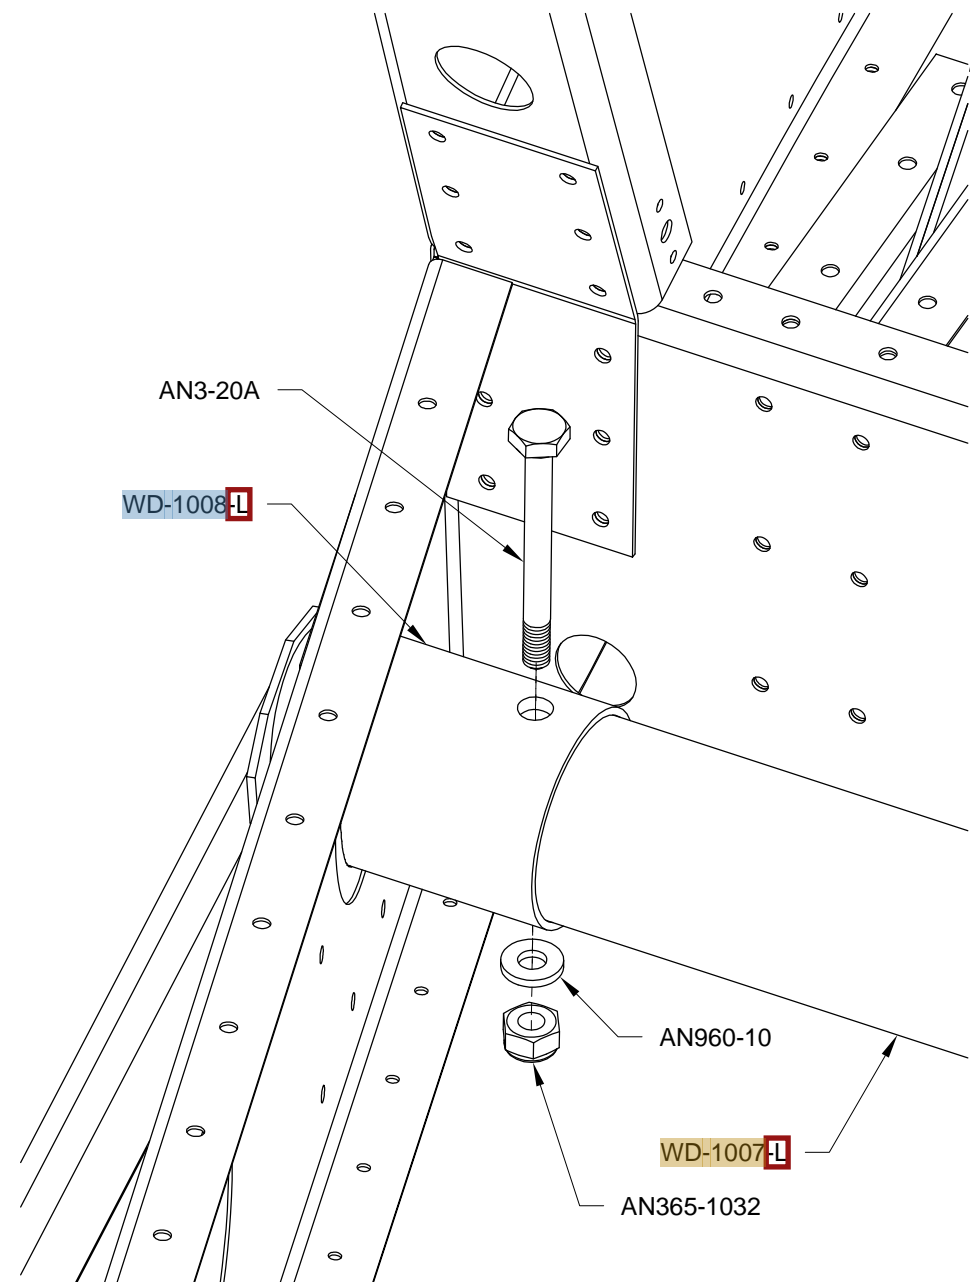

FIGURE 1: BOLTING THE STEP IN PLACE
Step 1: Bolt the **WD-1007-L** Step to the **WD-1008-L** Mounting Bracket as shown in Figure 1.